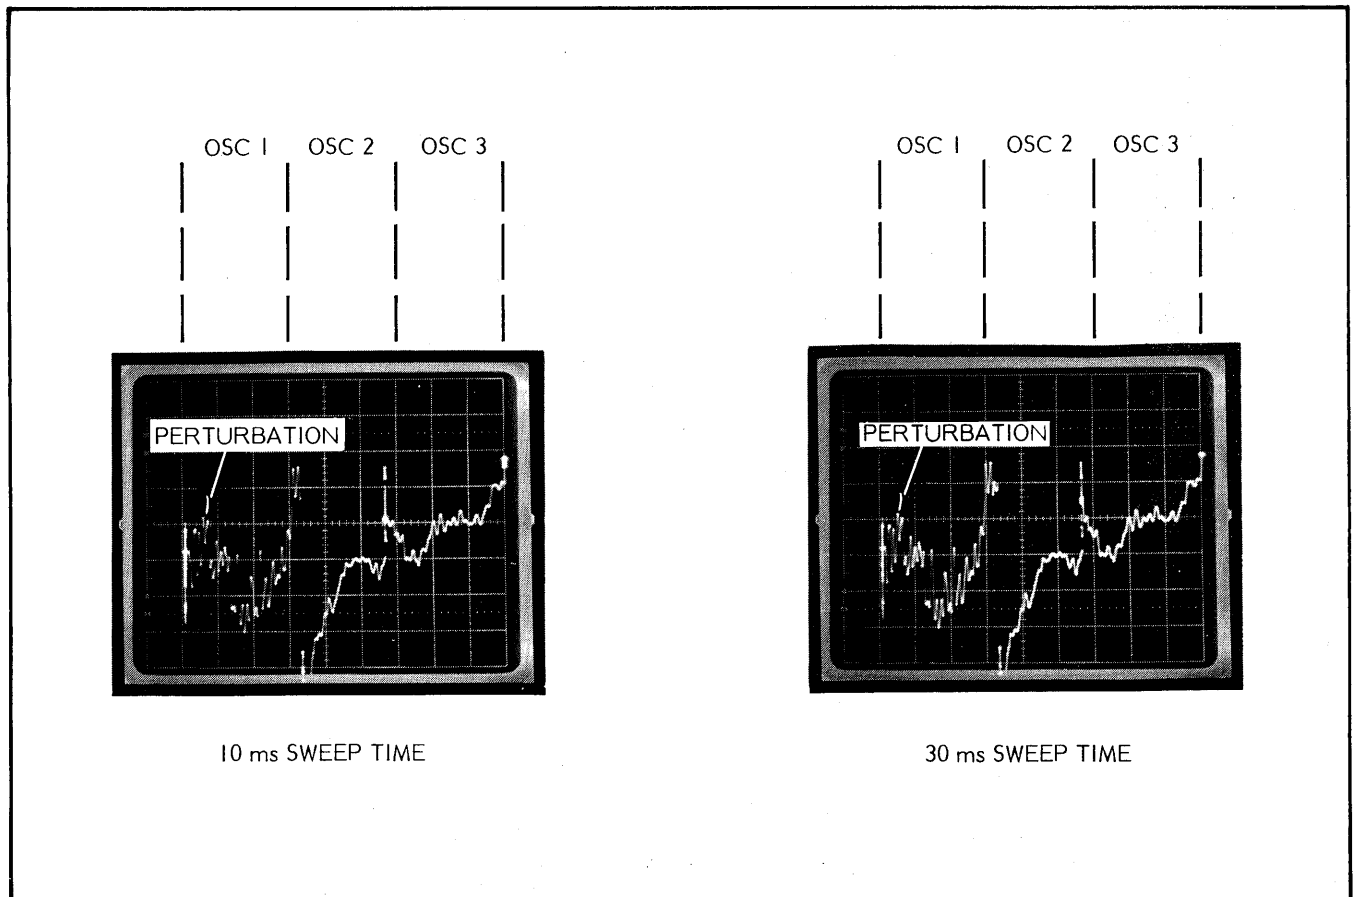

Figure 5-34. Waveforms Showing Frequency Shift with Sweep Time Change
1. select a perturbation to observe in the Osc 1 (2-8 GHz) band (Figure 5-34),